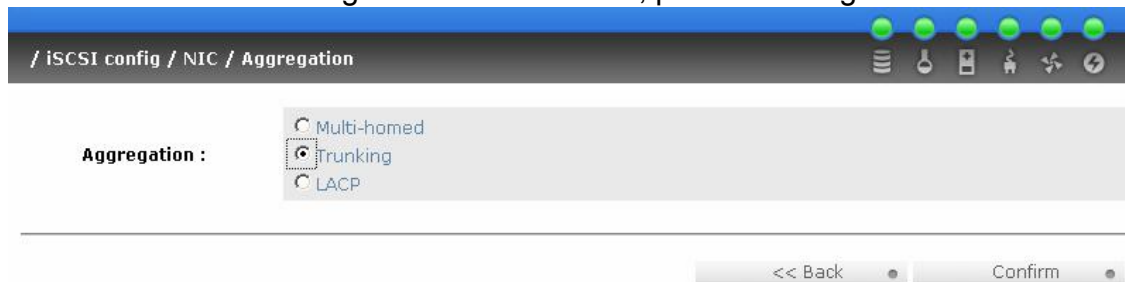

Figure E.8
- Select “LACP”. If Trunking is needed, please see Figure E.8.